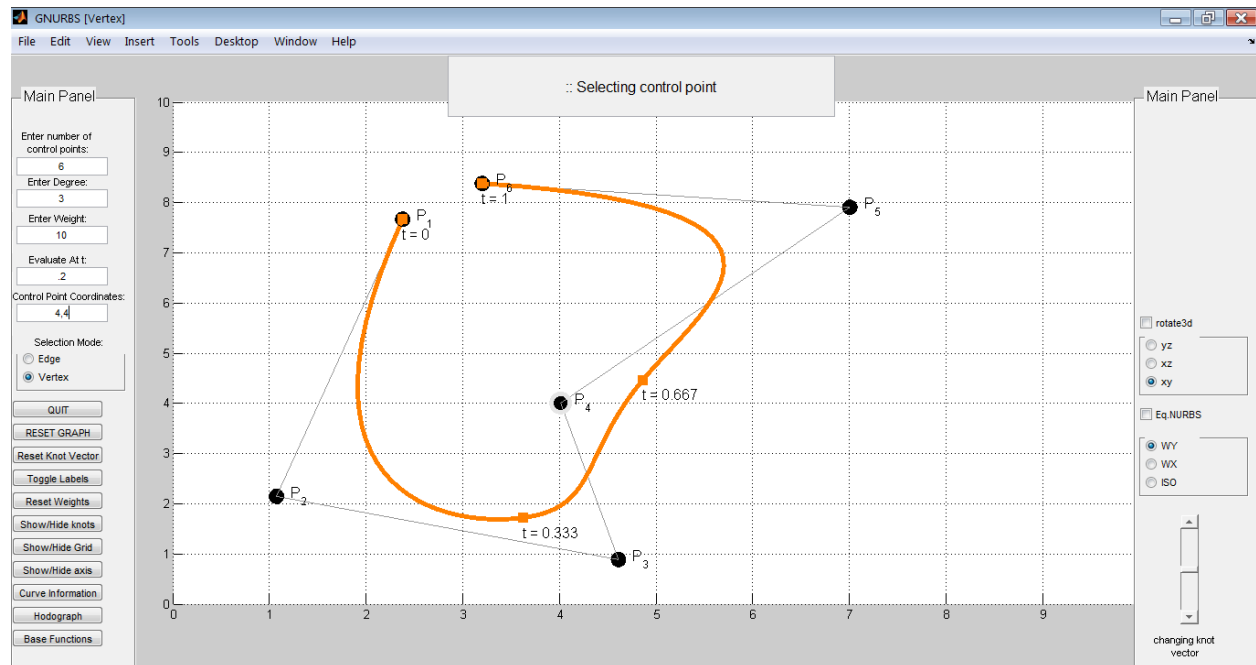

Figure 9: Changing the coordinates of P_4 to (4,4) from the left panel.
One can also assign exact numerical values to the coordinates of control points. This can be done by selecting a control point and entering its coordinates in the form “ a,b ” (where a and b are the x and y coordinates of the control point) in field (5) of the left panel “Cont. Point Coords.”. For example, in Figure 9, the coordinates of P_4 are changed to (4,4).